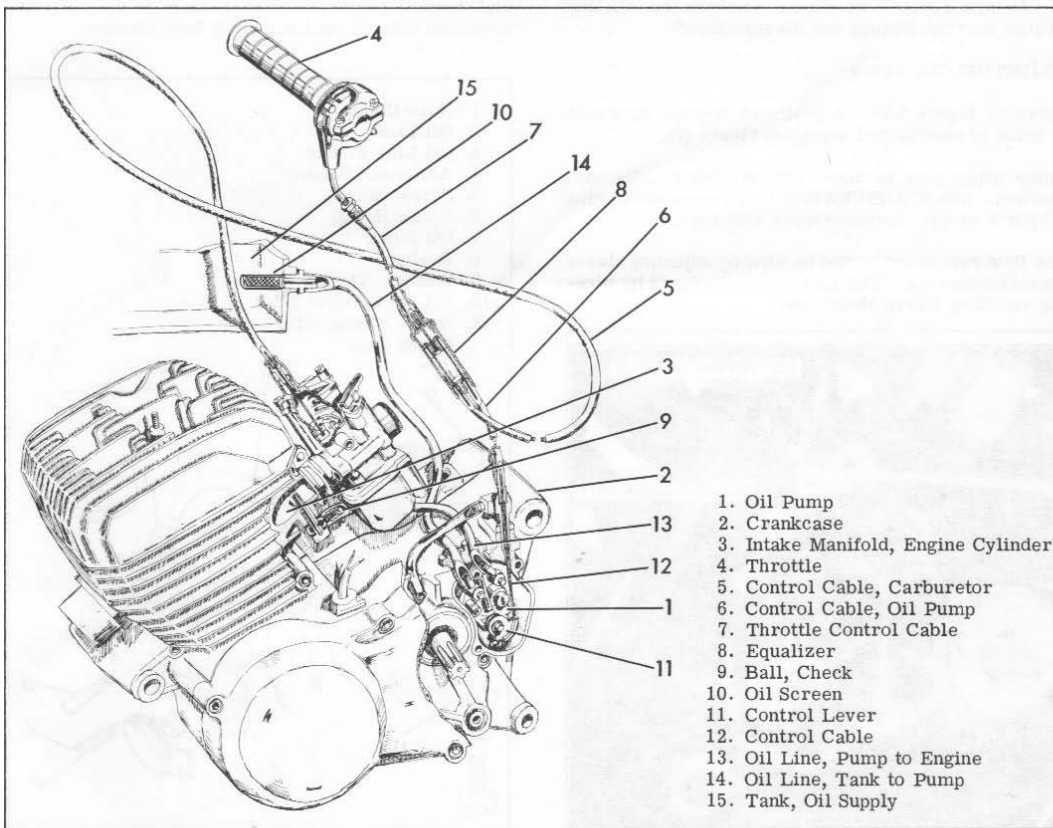
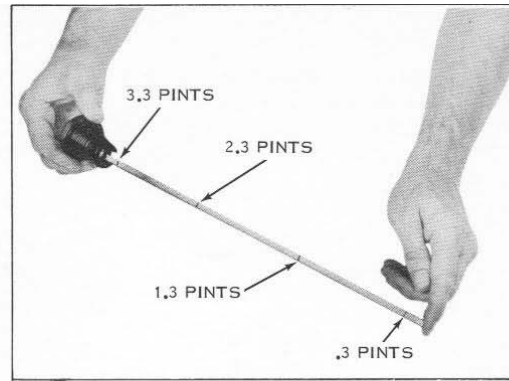

Figure 3.37 Lubrication System
Figure 3.40. Oil Tank Gauge Rod
The oil pump (1) is a precision reciprocating type pump located inside crankcase (2) on left side as shown in Figure 3.37. The amount of oil delivered to cylinder intake manifold (3) depends on engine R.P.M. and throttle (4) position thus providing the correct ratio of gas to oil under all operating conditions. The engine drives the pump piston through a worm gear. The control lever is mounted on a cam shaft which varies the length of piston stroke according to throttle opening. Both carburetor control cable (5) and oil pump control cable (6) are connected to handlebar throttle control cable (7) through equalizer (8). A check ball (9), located in the oil line fitting on the intake manifold, prevents oil from flowing away from engine and prevents air from entering oil line (13) when engine is not running. An oil filter (14) is located inside of
The engine lubricating oil tank (15), Figure 3.37, is an integral part of frame. It is located directly under fuel tank. The tank cap, in addition to closing tank, has a hinged gauge rod attached for checking oil level. The rod extends down the full length of tank and has four marks on it to indicate how full the tank is as shown in Figure 3.40. Always check oil level with cap fully seated in its closed position. The marks indicated are: 3.3 (full), 2.3, 1.3 and .3 pints.